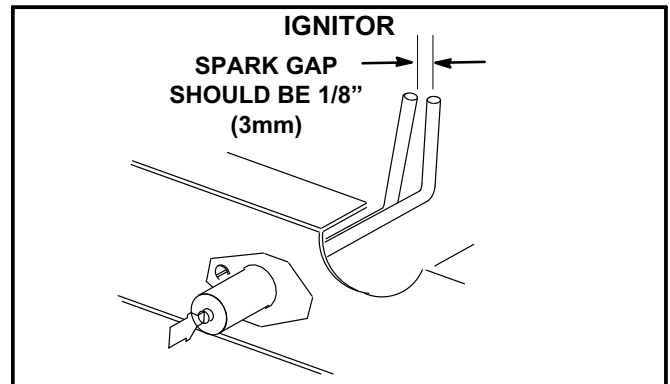

FIGURE 34
- 5- Locate the ignitor under the right burner. Check ignitor spark gap with appropriately sized twist drills or feeler gauges. See figure 34.